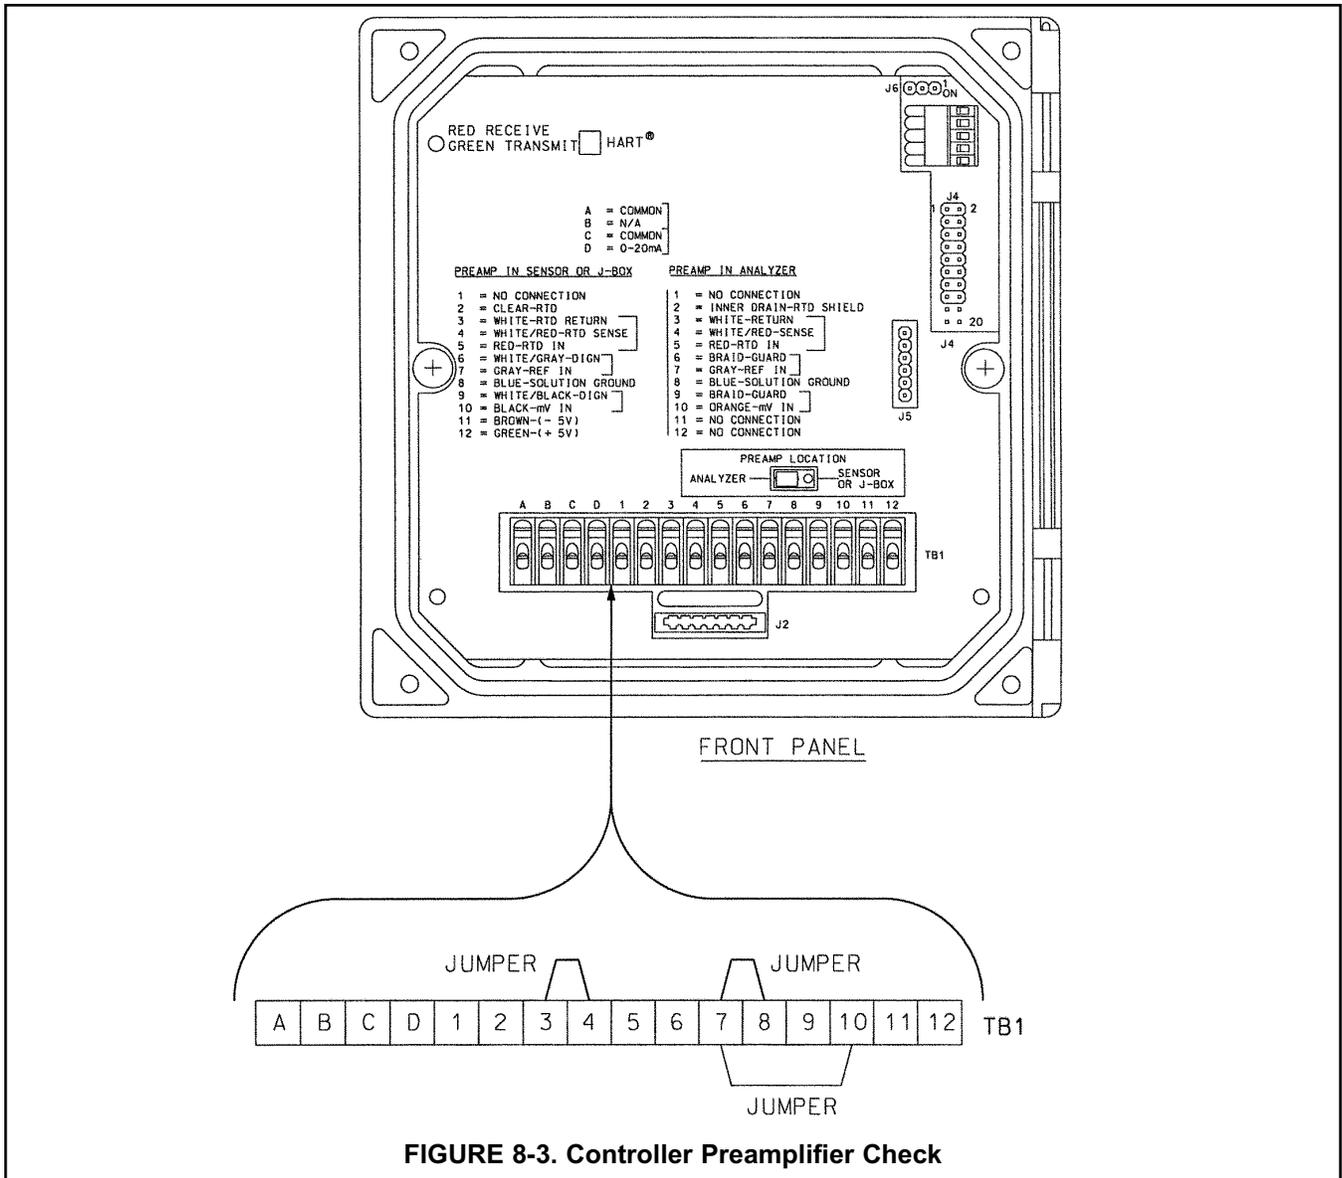

FIGURE 8-3. Controller Preampifier Check
B. Controller preamp check (Figure 8-3)